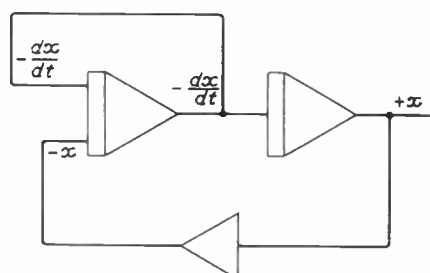

Fig. 12. Integrator can sum as well as integrate
The circuit shown in Fig. 12 uses the summation provided by the integrator (at left) to eliminate the separate summer shown at far right in Fig. 11. As the sum of the inputs $(-dx/dt - x)$ is equal to $d^2 x/dt^2$, this circuit also satisfies equation (5). Figs. 11 and 12 both solve the same problem, but Fig. 12 uses one less element.